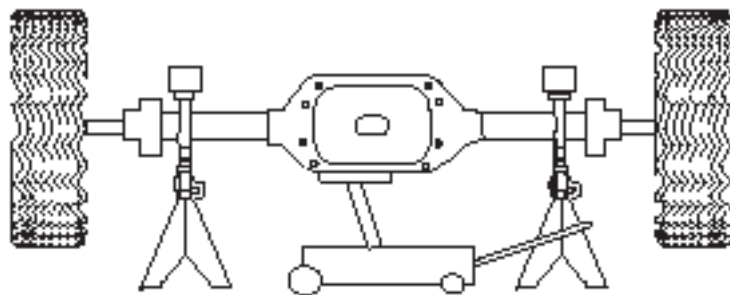

fig. 1
1. Jack up the rear of the vehicle or raise on a hoist (fig. 1). Support the frame with safety stands. Lower the suspension or raise the body of the vehicle until the suspension is fully extended (wheels hanging).